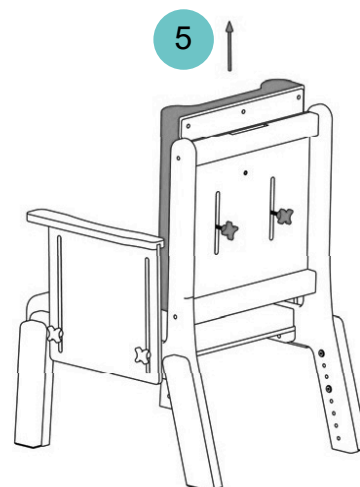

Figure 6
- Slide back cushion to desired position (Ref. 5 of Figure 6)